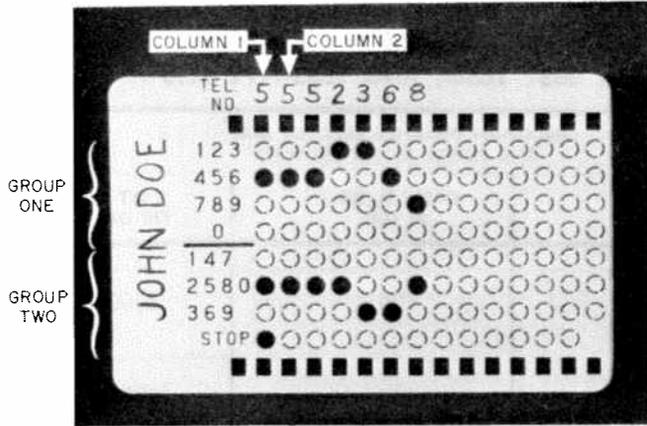
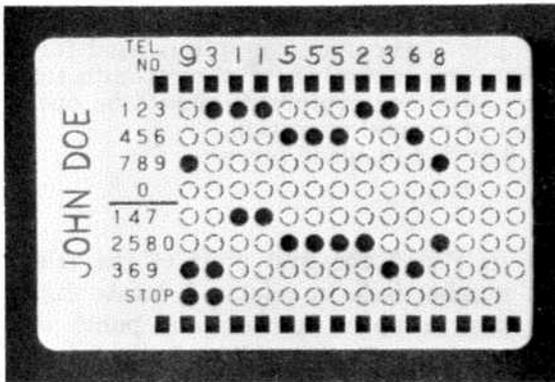

Fig. 7 — Card Coded for 7-Digit Telephone Number
Fig. 8 — Card Coded for Access Code (9), Stop, Area Code (311), and 7-Digit Telephone Number
**6.01** It is important to properly punch and check cards for accuracy to ensure satisfactory results. (See Fig. 7 and 8.)
- (1) Write name and telephone number in spaces provided as shown in Fig. 7 and 8.
- (2) Convert exchange letters to numbers. For example: use 2 for A, B, or C and 7 for P, R, or S.
**Note:** There are two groups of numbers 1 through 0 on the card. (See Fig. 7.)
- (3) In Fig. 7 the first digit of the telephone number is 5. In column 1, locate digit 5 in the first group of numbers and punch out the perforation with a pencil or ballpoint pen. In the same column, locate digit 5 in the second group of numbers and again punch out the perforation.
- (4) Repeat this procedure for each digit in the telephone number. The digit 0 must be punched out in each group of numbers just as any other digit.
- (5) For DDD calls, punch out the access code.
**6.03** On a PBX extension where a code (such as 9) is required to reach a central office line, prepare a card for dialing an access code (Fig. 8) as follows: